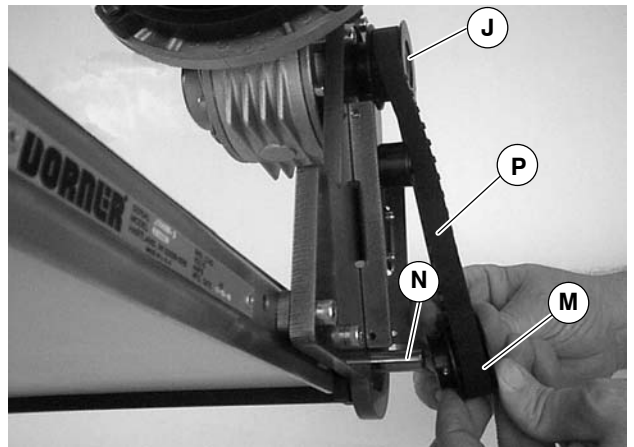

Figure 14
6. Install key (N of Figure 14).
7. Wrap timing belt (P) around driven pulley (M) and drive pulley (J). Install driven pulley (M) onto conveyor shaft.